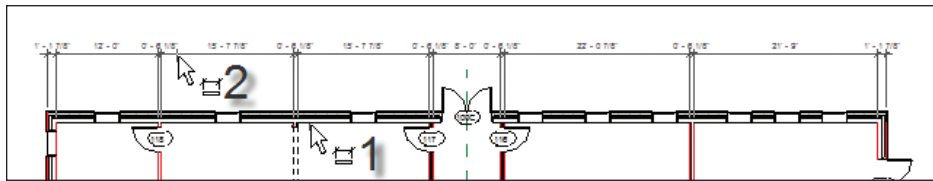

FIGURE 5.4 By choosing the Pick Entire Walls option, you can add an entire string of dimensions in one click.
8. Zoom in on the north wall, as shown in Figure 5.4.
10. Pick a point (to place the dimension) approximately 8' above the north wall (see Figure 5.4).